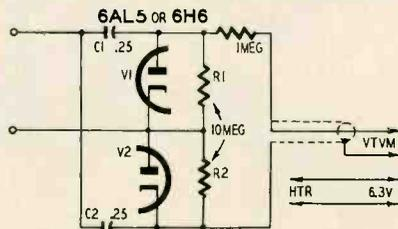

Fig. 3—Diagram of peak-to-peak probe.
**Peak-to-peak probe:** Some of the most necessary, and often difficult, measurements in TV servicing are peak-to-peak voltages of complex waveforms. This job is made simple with a v.t.v.m. and a special peak-to-peak probe (Fig. 3).